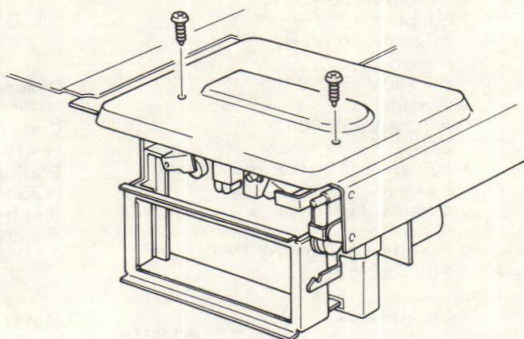

Fig. 5
- 1) Remove 2 screws. (See figure 5)